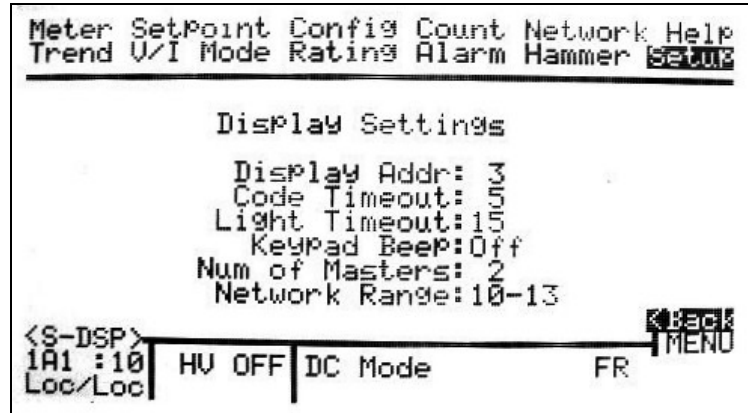

Figure 1-2c
- The GVC addresses that are to be displayed on the network display screen must also be defined. This parameter is found on the **Display Settings** screen (fig. 1-2c), which is also accessed from the **Setup** screen. The display range is set in the **Network Range** parameters.